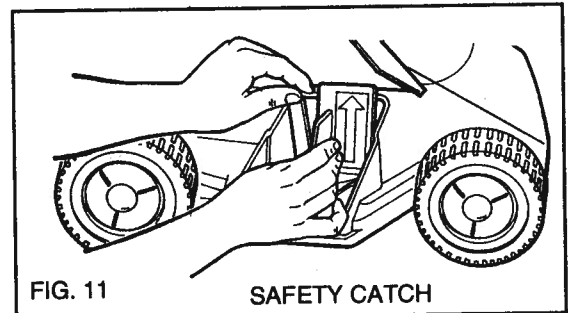

FIG. 11
3. Grasp the mulch plate handle, as shown in Figure 11, and lift the safety catch shown in Figure 11. Withdraw the mulch plate while rotating the plate clockwise.